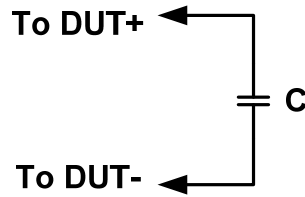
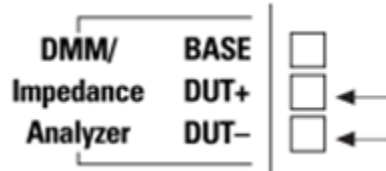

Fig. 5. Using Digital Multimeter SFP to measure value of a resistance.
Fig. 6. DMM Ports on the Elvis Prototype Board.
4. Connect the two terminals of capacitor between DUT+ and DUT- terminals (refer to figure 6) on the proto board as shown in figure 5.